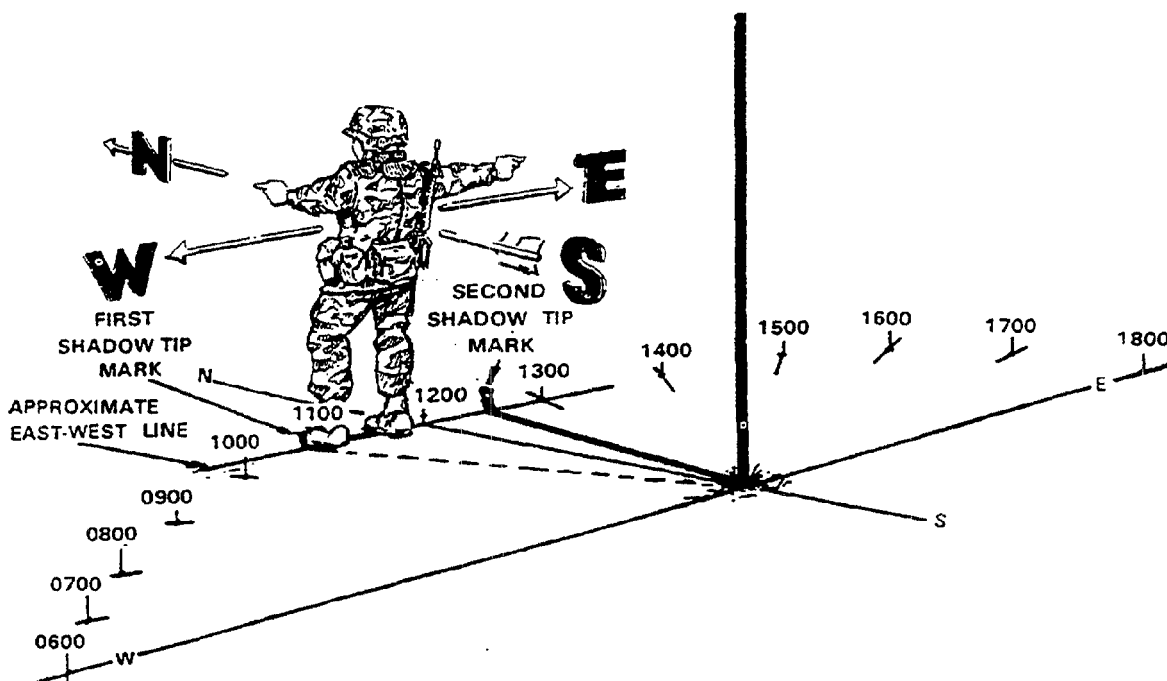

Figure C-6. Determining Directions and Time by Shadow
(1) This simple and accurate method of finding direction by the sun consists of four basic steps (Figure C-6).
(2) A line drawn perpendicular to the east-west line at any point the approximate north-south line. If you are uncertain which direction is east and which is west, observe this simple rule--The first shadow-tip mark is always in the west direction, everywhere on earth.
(3) The shadow-tip method can also be used as a shadow clock to find the approximate time of day (Figure C-6).